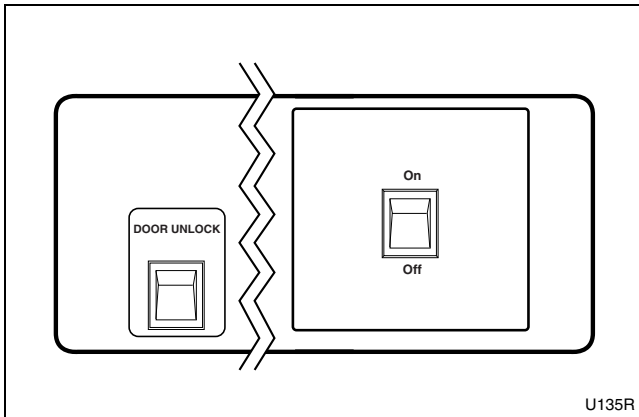

Figure 17
**For non-coin models:** Press and hold the DOOR UNLOCK button on the left side of the control panel while performing the above step. Refer to *Figure 17*.